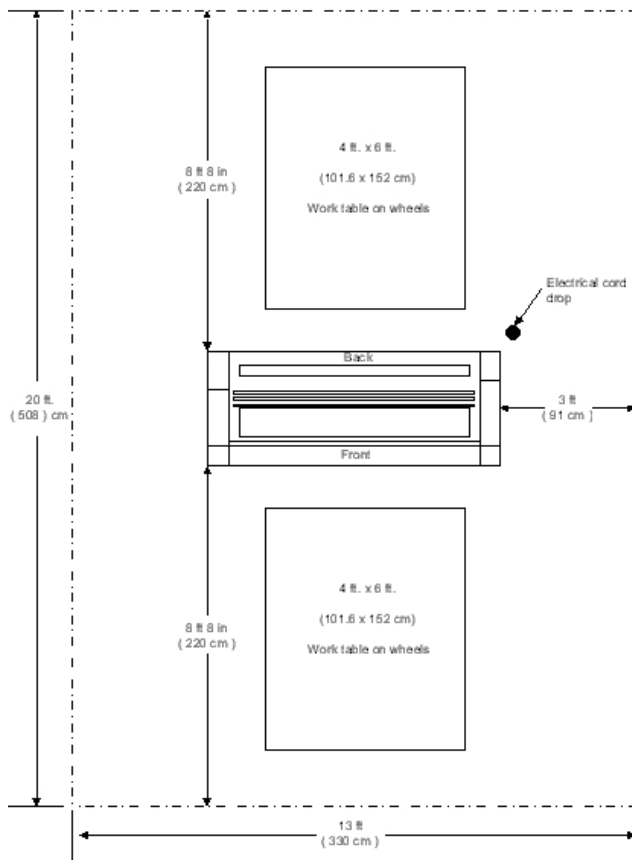

Fig 2
- A work area must be established that allows for operation in both the front and rear of the laminator and provides space for efficient material flow. (Figure 2)